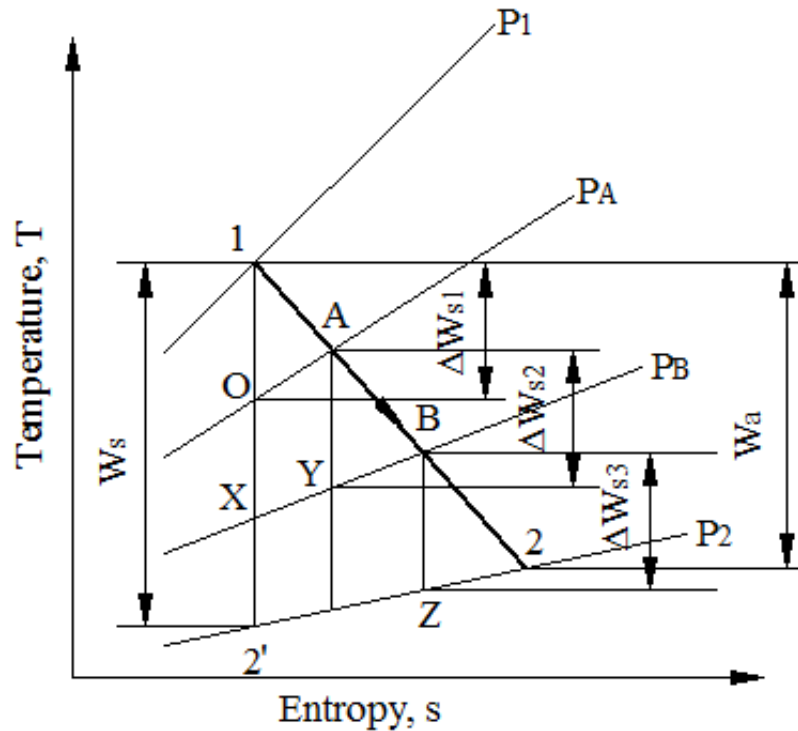

Fig. 2.8 Effect of reheat on expansion process
The thermodynamic effect of multistage expansion can be studied by considering three stage turbine working between inlet pressure  $p_1$  and the delivery pressure  $p_2$  as shown in the figure 2.8. The intermediate pressures are being  $p_A$  and  $p_B$ . The stage pressure ratio,  $p_r$  and the stage efficiency,  $\eta_{st}$  are assumed to be same for all stages. The process 1-2' and 1-2 are the isentropic and actual expansion process respectively.
**Answer:** Consider three stage turbine working between inlet pressure  $p_1$  and the delivery pressure  $p_2$  as shown in the figure 2.8. The intermediate pressures are being  $p_A$  and  $p_B$ . The stage pressure ratio,  $p_r$  and the stage efficiency,  $\eta_{st}$  are assumed to be same for all stages. The process 1-2' and 1-2 are the isentropic and actual expansion process respectively.